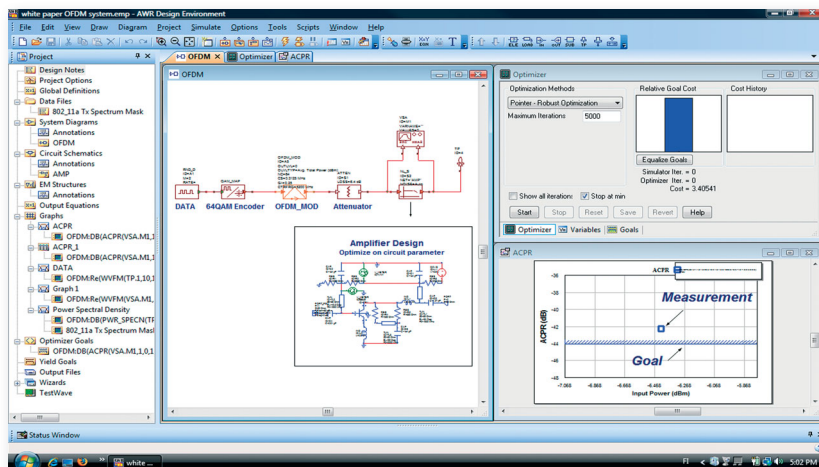

Figure 2. VSS co-simulated with the Microwave Office design environment.
- ◀ VSS is a part of AWR's Design Environment™ and works seamlessly with the Microwave Office® high-frequency design suite, which provides a complete solution, from concept through verification (Figure 2).